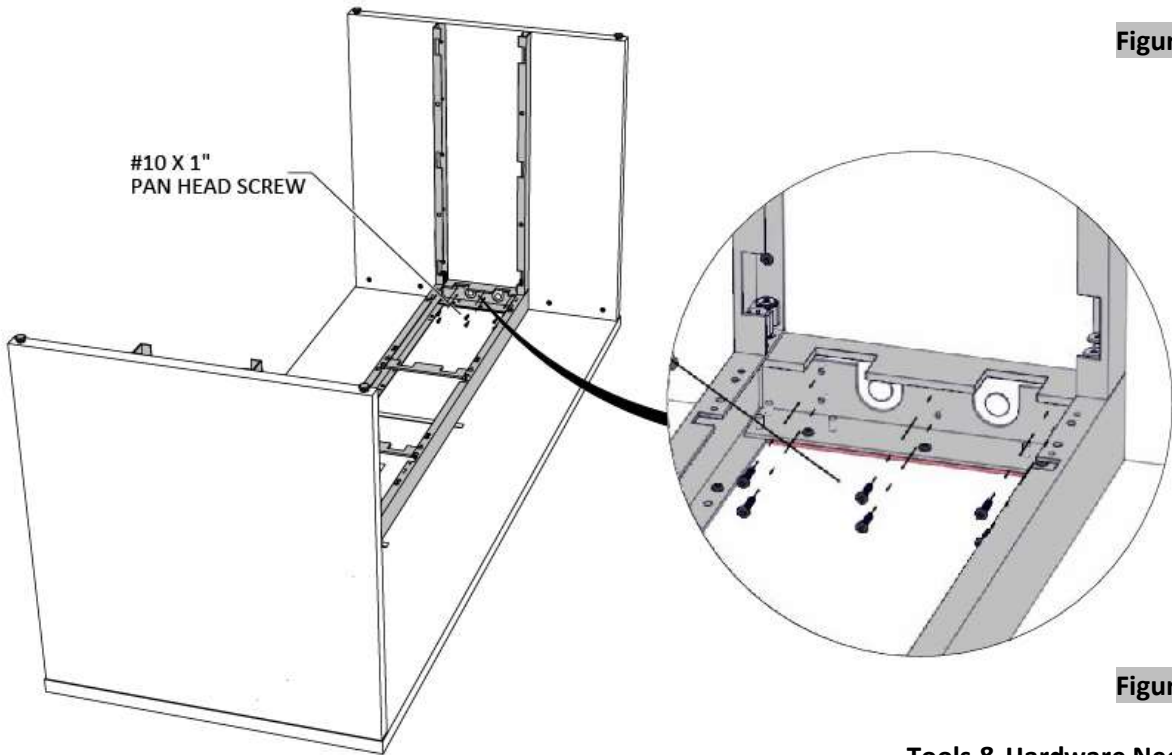

Figure 12
- 29. Securely fasten the bridge to gable, using #10 X 1" Pan Head Screws, (Figure 12).